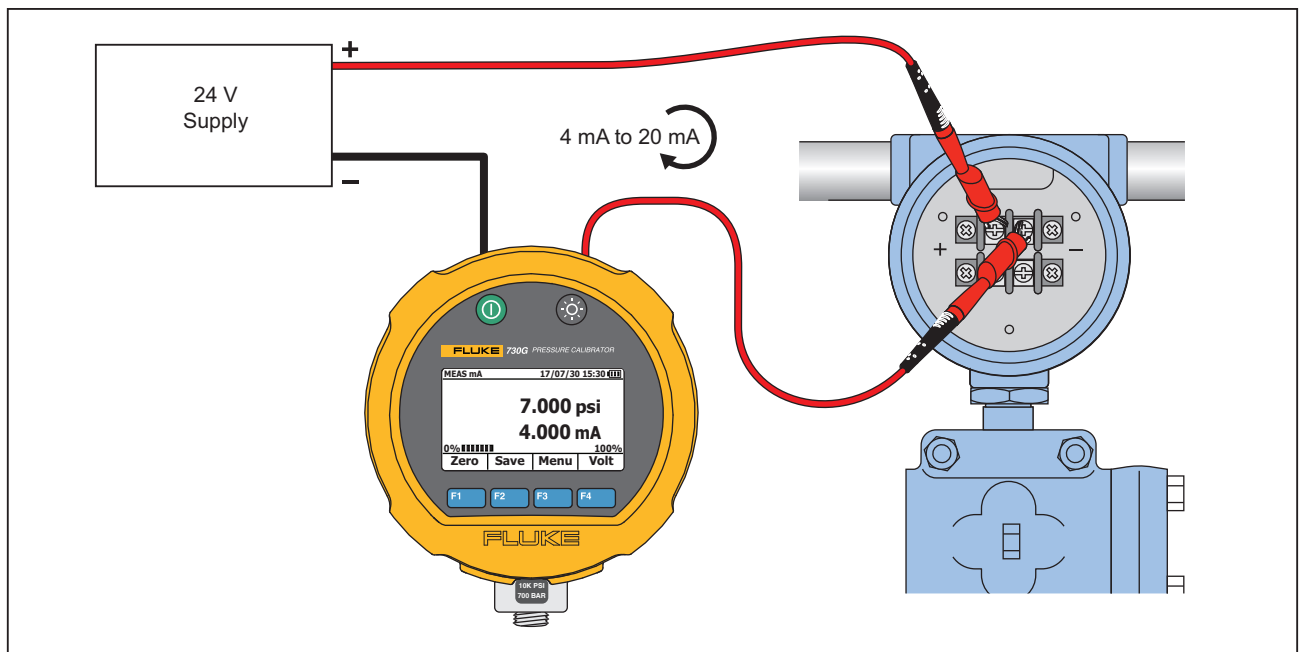

Figure 10. External Loop Power, Internal Resistance
1. Connect the Product to the HART device. See Figure 10.